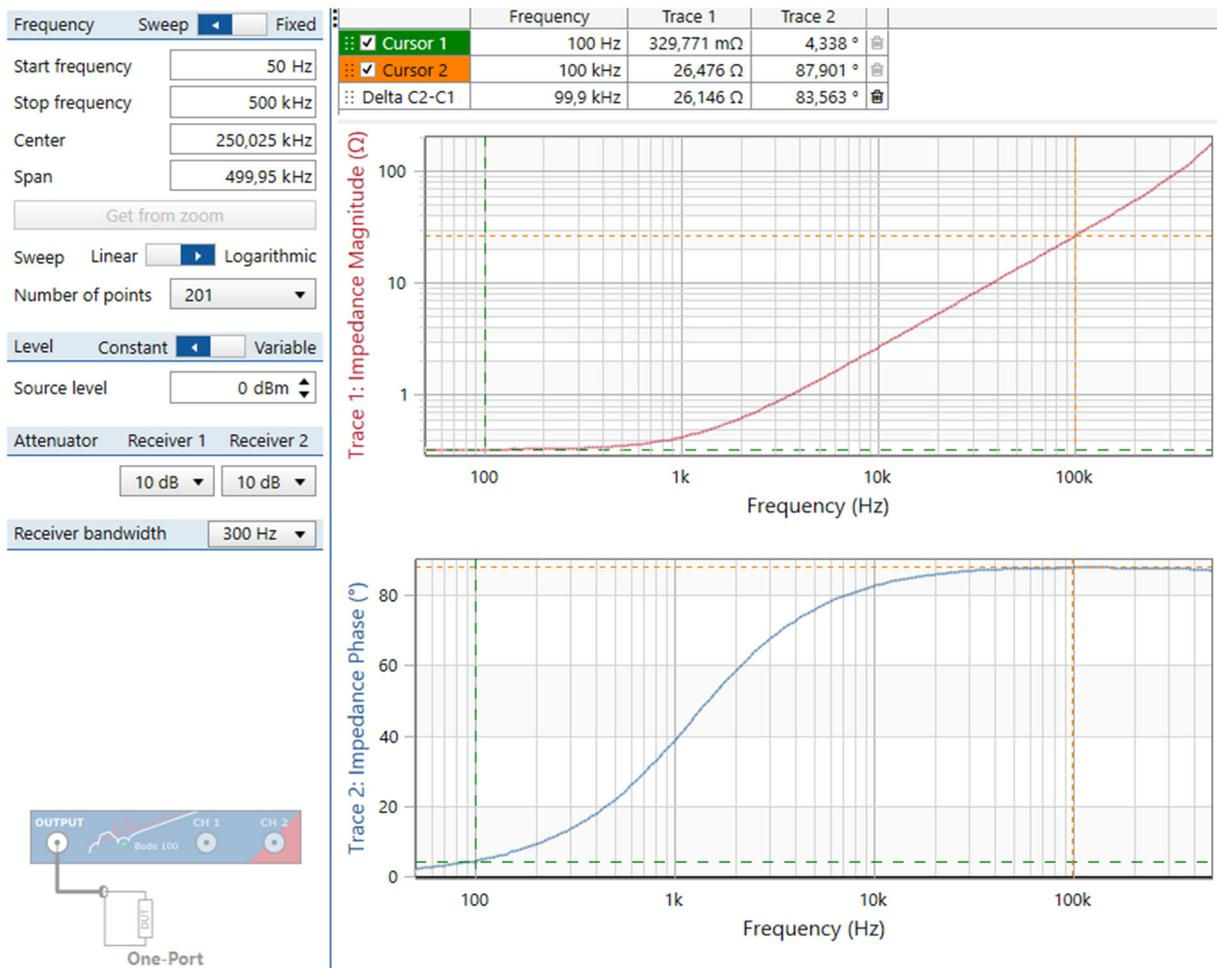

Fig. 3.2.2: Bode100 One-Port Impedance measurement of both inductors: (10+33) μH
- In the Matlab listing below, replace values of Z_{L_abs} with measured impedance of Fig. 3.2.2 in the frequencies given above as vector f_L . Measure wire resistor R_w at $f=100$ Hz.
DCDCbuck board: no jumpers to coils: $L=43\mu\text{H}$ nominal, set jumper for $C=680\mu\text{F}$ nominal. Connect a BNC cable from *Bode100 OUTPUT* to an isolated *DCDCbuck* board's point A according to Fig. 3.0 and ground, as sketched in the lower left corner of Fig. 3.2.2(a).